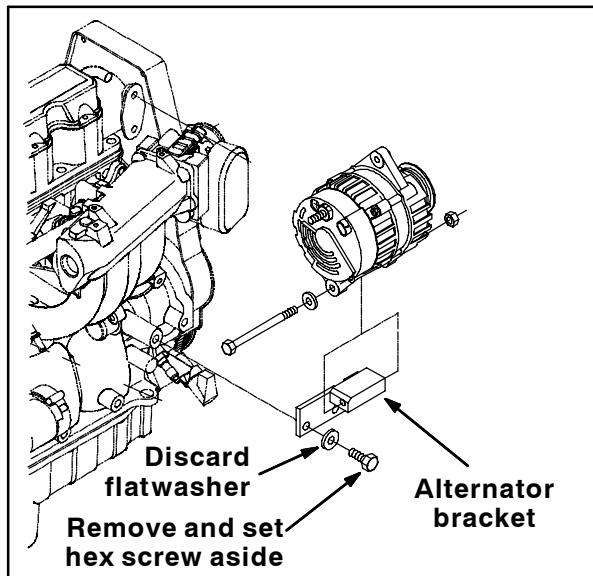

FIG. 14
- Remove the one hex screw and flat washers holding the alternator bracket to the machine. Set the hex nut aside. Discard the flat washer. Refer to Fig. 14.